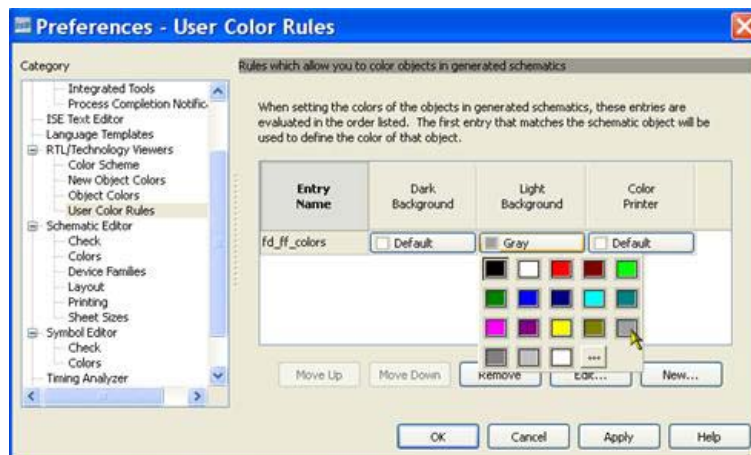

Figure 7-10: Selecting Light Background Gray
- In the Light Background column, select **Gray** as the color (see Figure 7-10) for **fd\_ff\_colors**, and click **OK**.